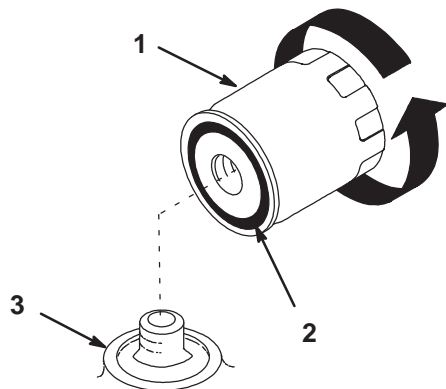

Figure 35
2. Remove the old filter and wipe the filter adapter (Fig. 35) gasket surface.
3. Apply a thin coat of new oil to the rubber gasket on the replacement filter (Fig. 35).
4. Install the replacement oil filter to the filter adapter. Turn the oil filter clockwise until the rubber gasket contacts the filter adapter, then tighten the filter an additional 1/2 turn (Fig. 35).